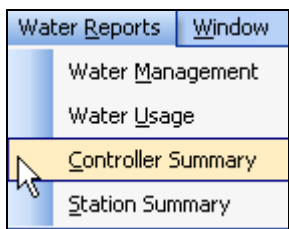

Figure 28.0.1
1. From the toolbar at the top of the screen select **Water Reports** then scroll down to **Controller Summary** and click on it (Figure 28.0.1).